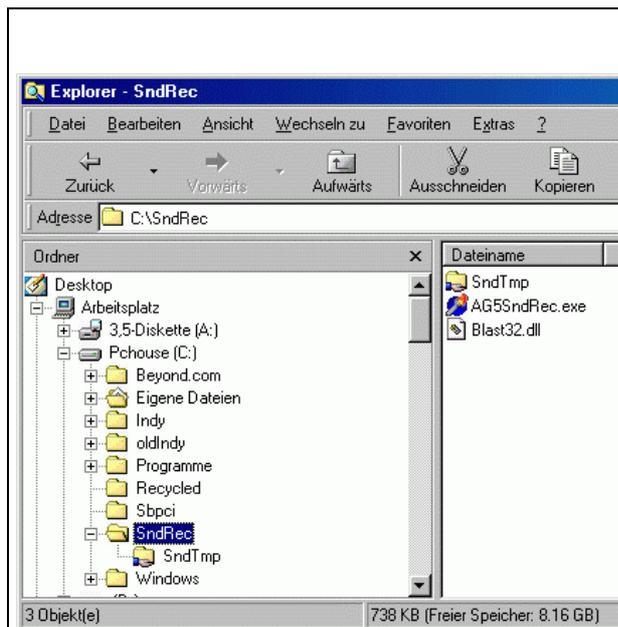
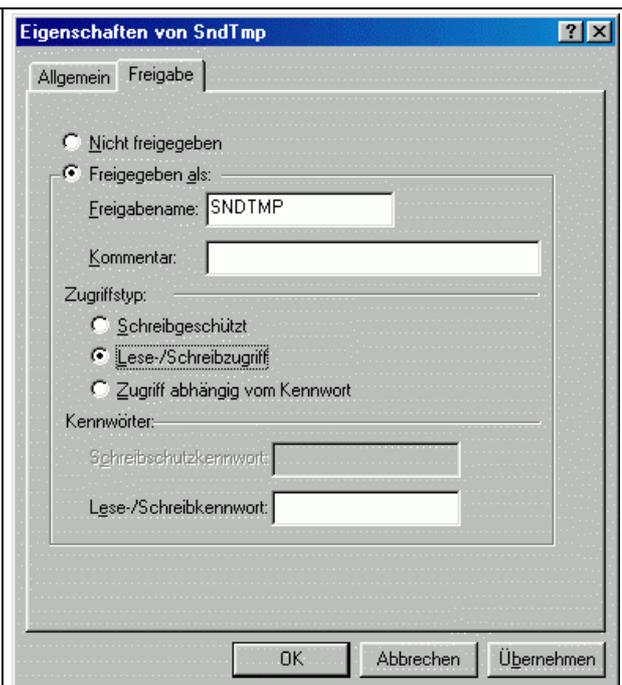

Figure 1: The executable program
Figure 2: the public folder
- example: c:\sndrec\sndtmp, see fig 1 and fig 2